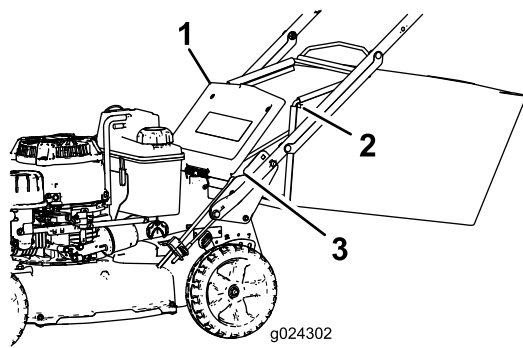

Figure 17
- Raise and hold up the rear door (Figure 17).
4. Install the bag-rod ends into the notches at the base of the handle, and rock the bag back and forth to ensure that the bag-rod ends are seated at the bottom of both notches (Figure 17).
3. Remove the bag rod on the grass bag from the notches at the base of the handle (Figure 17).